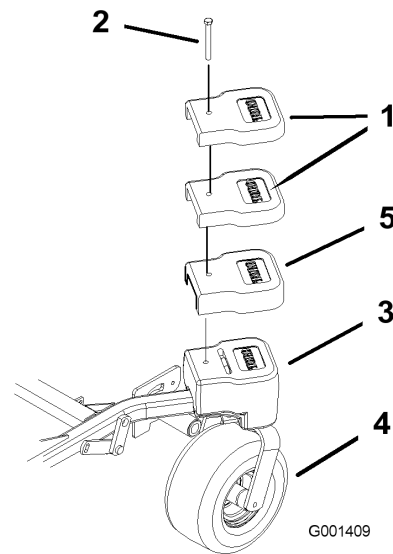

Figure 25
4. Install a large top weight on top of each caster weight (Figure 25).
5. Install the 2 small top weights on top of each large top weight and secure them with a bolt (1/2 x 5 inches) (Figure 25).